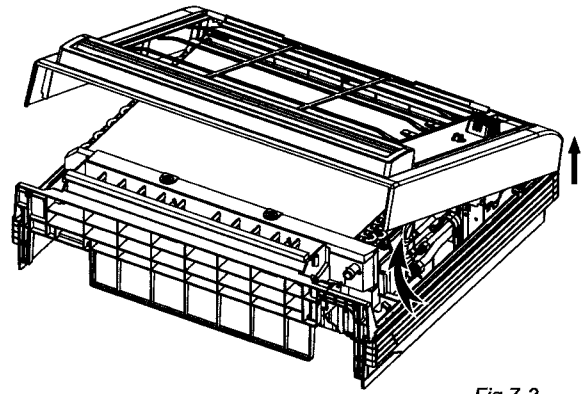

Fig.7-3
- Remove the four screws. (Refer to Fig.7-3)
- Opening bottom of face plate for a angle that is 30 degrees, then the top of face plate will be take up. (Refer to Fig.7-3).